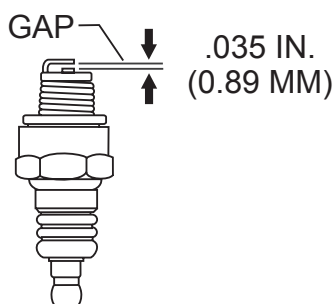

Figure 40. Spark Plug Gap Adjustment
5. Measure the spark plug electrode gap (Figure 40) with a wire-type feeler gauge. If needed, adjust the gap to .035 in. (0.89 mm), by carefully bending the side electrode.